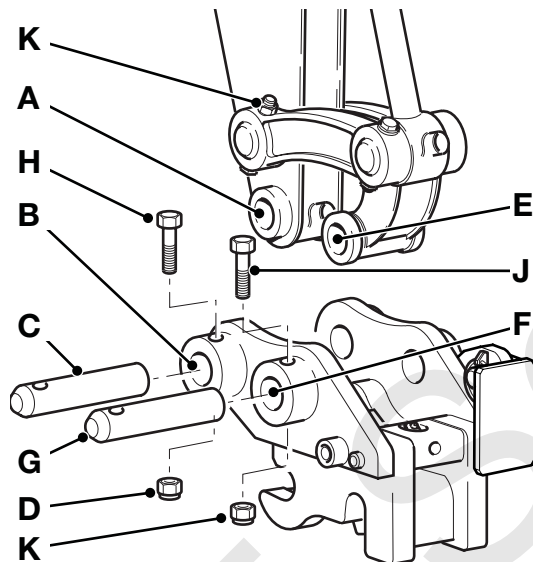

Fig 105.
- 1 Before the Quickhitch is installed, make sure that the tipping lever locking bolt assembly is attached with the nut at position **K**. ⇒ Fig 105. \(□ 267\).